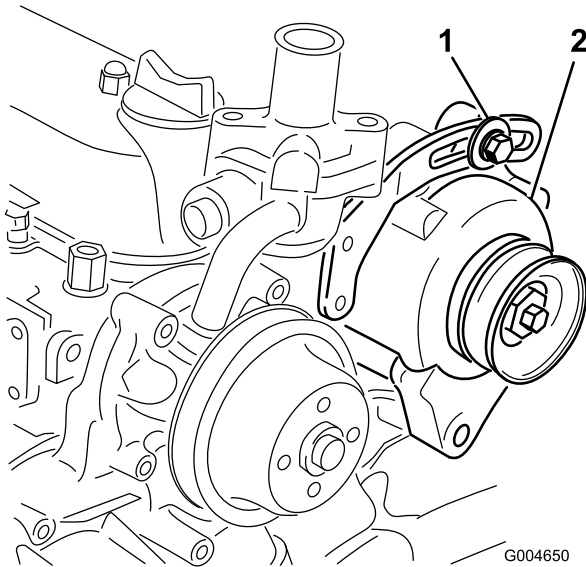

Figure 68
2. If the deflection is not 3/8 in. (10 mm), loosen the alternator mounting bolts (Figure 68).